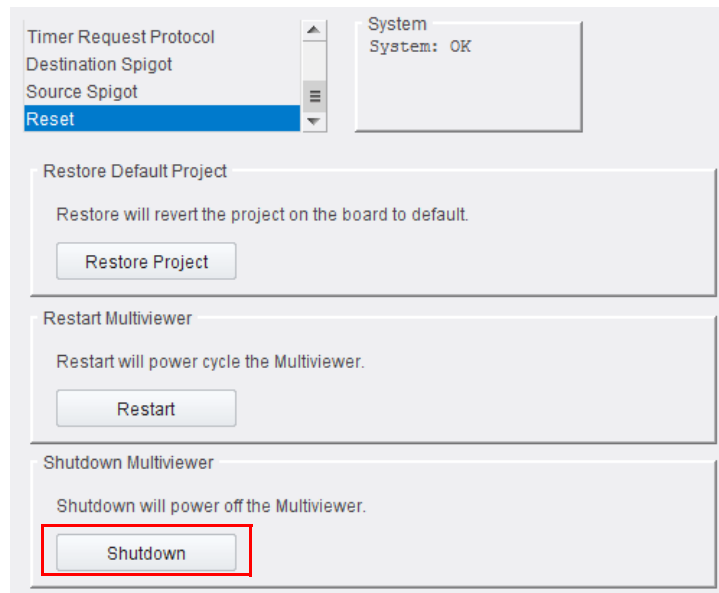

Figure 62 Reset Template
1. Click **Shutdown** in the **Reset** template, see Figure 62.